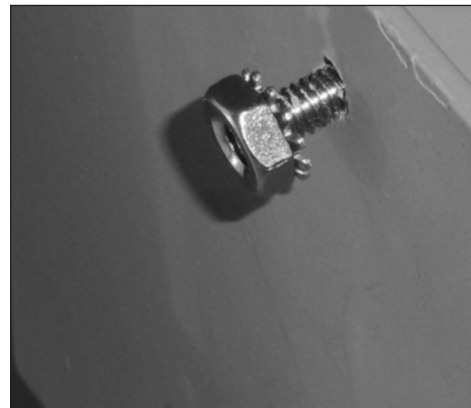

Figure 7.24 Example - 1/2 screw inserted into top hole of mounting plate
5. Source locally one (1) #8-32 X1/2" screw, two (2) each #8-32X3/4" screws and three (3) #8-32 Kep® nuts (or equivalent) for this step. Insert 1/2" screw into top hole in mounting plate and thread one of the nuts loosely on the end as shown in Figure 7.24. Example